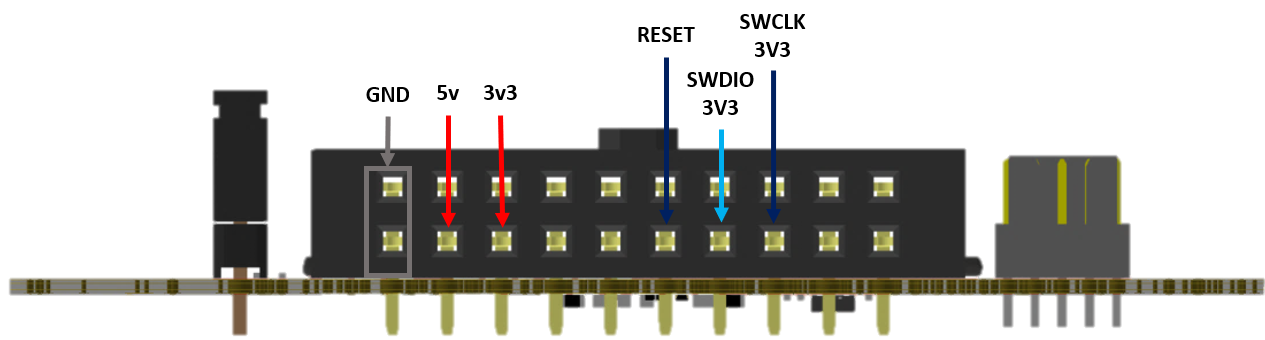

Figure 8. LP-XDS110 Header Pinout
To use the LP-XDS110 (or LP-XDS110 (ET)) connect the JTAG SWD 10pin IDC Cable from the BoosterPack ARM 10pin JTAG Connector (J7) to the XDS110 connector on the LP-XDS110. Then use two jumper wires to provide 5v and GND to the BP-CC3301 from the LP-XDS110 (see Figure 8. below).